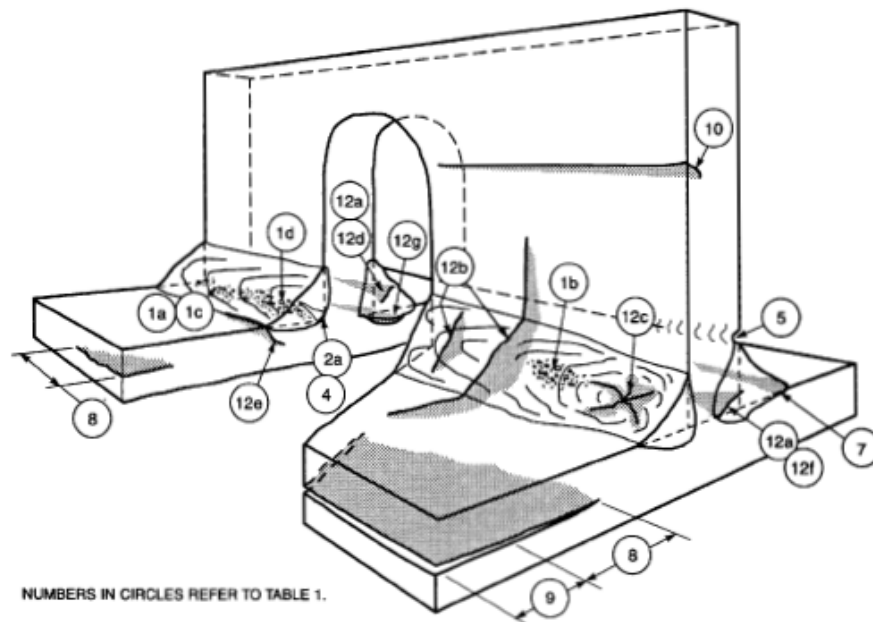

Figure 2- Double-Bevel-Groove Weld in T-Joint
- (a) Fill in the table below for type of discontinuities, location and remarks on the circle areas given in the Figure 2 for a double-V groove weld in butt joint.